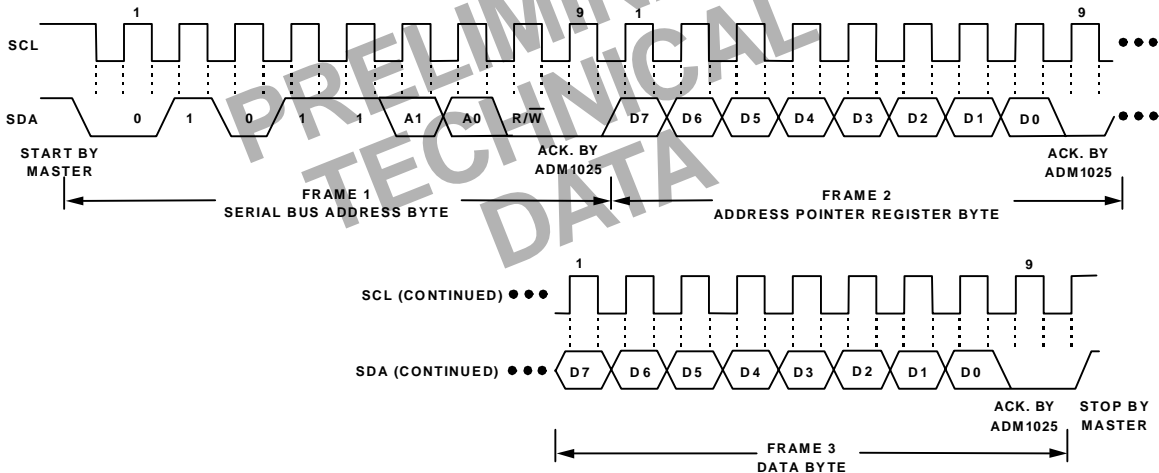

Figure 2a. Writing a Register Address to the Address Pointer Register, then Writing Data to the Selected Register
This is illustrated in figure 2a. The device address is sent over the bus followed by  $R/\overline{W}$  set to 0. This is followed by two data bytes. The first data byte is the address of the internal data register to be written to, which is stored in the Address Pointer Register. The second data byte is the data to be written to the internal data register.
- In figures 2a to 2c, the serial bus address is shown as the default value 01011(A1)(A0), where A1 and A0 are set by the three-state ADD pin.